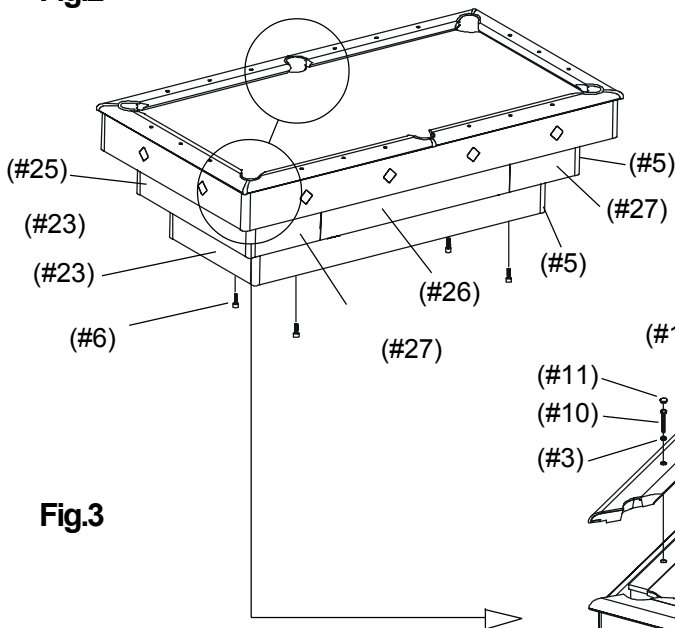

Fig.3
3.) Position table into final location. Level using four leg levelers (#6) built into bottom of table. (See Fig. 3) Use Carpenters Level and adjustable leg levelers to level precisely by turning levelers counter clockwise to raise low end according to bubble level. The closer the bubble is to center, the more level the table will be.